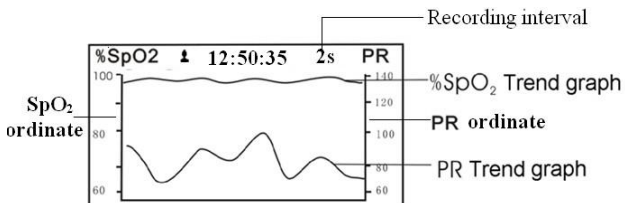
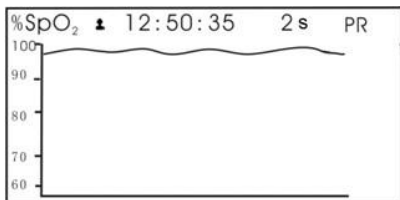
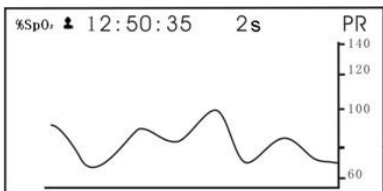

Figure 4-9A Trend Graph Display Screen
Figure 4-9B Trend Graph Display Screen
Figure 4-9C Trend Graph Display Screen
Choose record in the record list, then press “” (mode/OK) key, the display screen will display trend graph, as shown in Figure 4-9A.
- Short time press “” mode/OK key to shift the trend graph screens (as shown in Figure 4-9A , Figure 4-9B and Figure 4-9C)